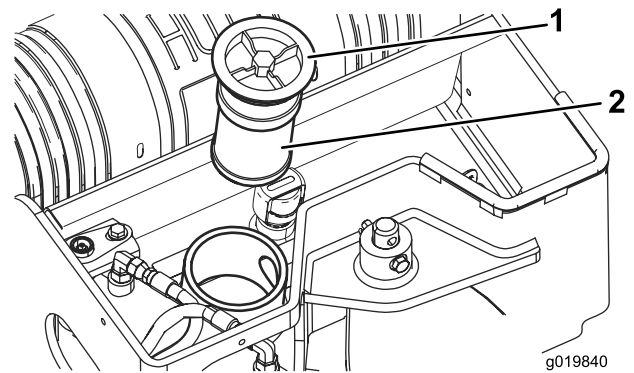

Figure 59
5. Clean the area around the filler neck of the hydraulic tank and remove the cap and filter from the filler neck using a socket (Figure 59).